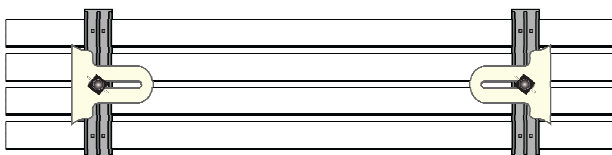

fig. 1
1. Turn the board over with the cleats facing upwards (see fig. 1)